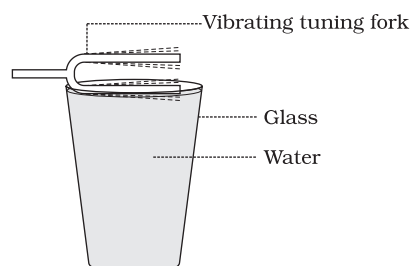

Fig. 11.2: One of the prongs of the vibrating tuning fork touching the water surface.
- Fill water in a beaker or a glass up to the brim. Gently touch the water surface with one of the prongs of the vibrating tuning fork, as shown in Fig. 11.2.